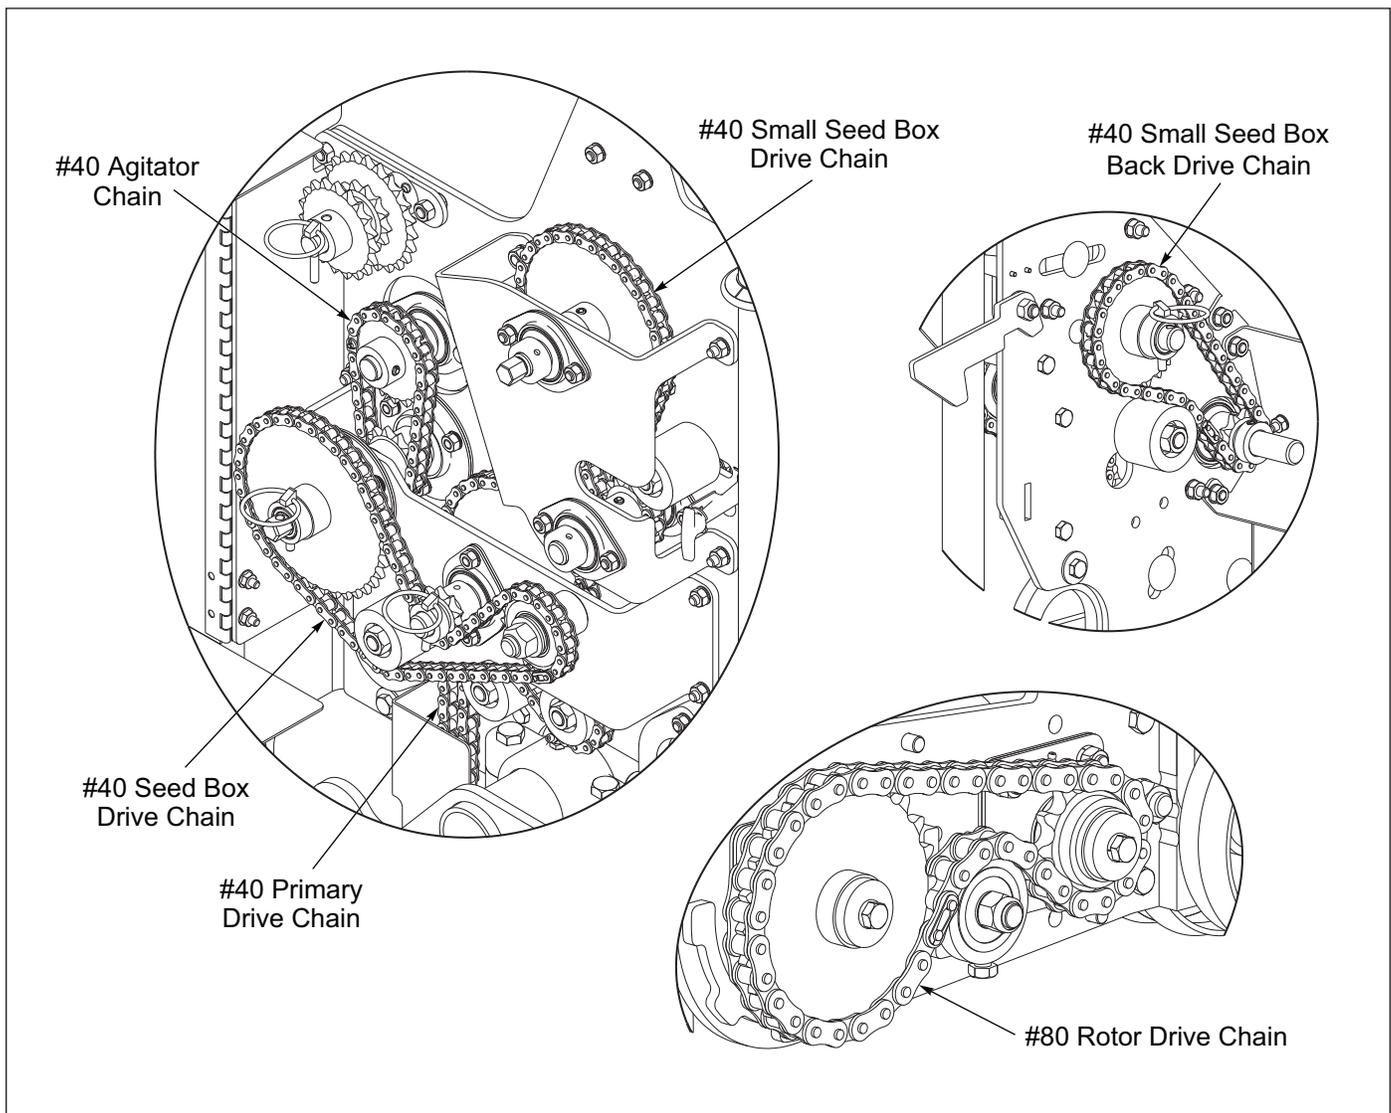

Figure 4-2: Chain Lubrication
- Lubricate Roller Chains periodically with quality chain oil. *It's a good practice to lubricate chain immediately after use while the chain is still warm for best penetration.* **See Figure 4-2.**